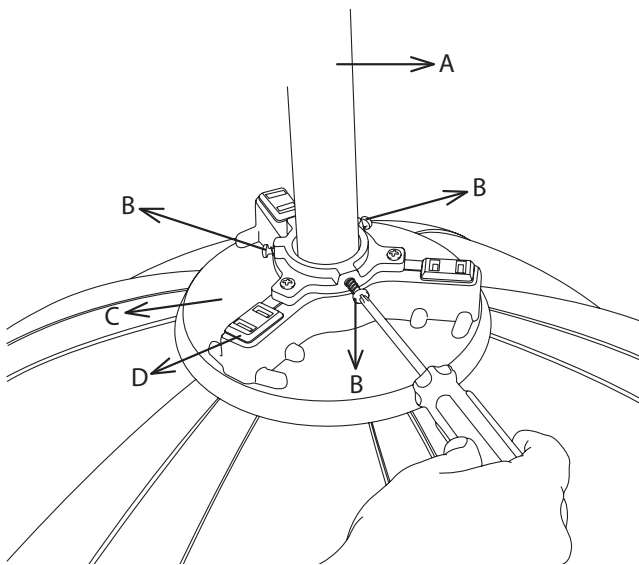

Figure 5
- Tighten all three (3) spindle screws to secure the tree in a stable, upright position (Fig. 5).